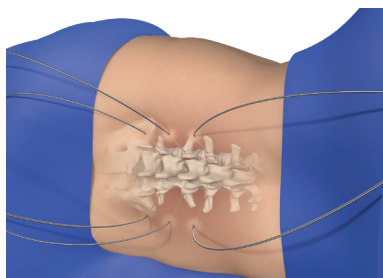

Figure 13
- Repeat pedicle targeting and preparation for all indicated levels (Figure 13).